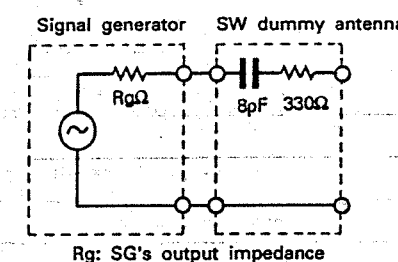

Fig. 13
3. SW dummy antenna shows Fig. 13.